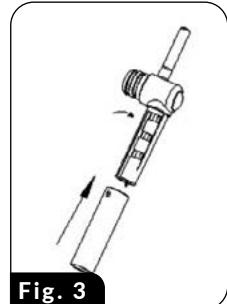

Fig. 3
1. Place small cups on the sliding stand (6) after it has been pulled out.
2. Two large holes in the stand (6) and the grate (9) are located directly below the holes where coffee in the portafilter flows out – this is an indication of how to place two small cups while brewing a double “Espresso”.
3. Place a large cup directly on the drip tray (9) – the stand (6) should then be slid in the device.
CAUTION! When brewing CAPPUCINO or LATTE, make sure you have adjusted the nozzle of the steam wand (22). You can also adjust the length of the milk dispensing tube nozzle, blocking it in various length settings to adapt it to different cup sizes (Fig. 3).